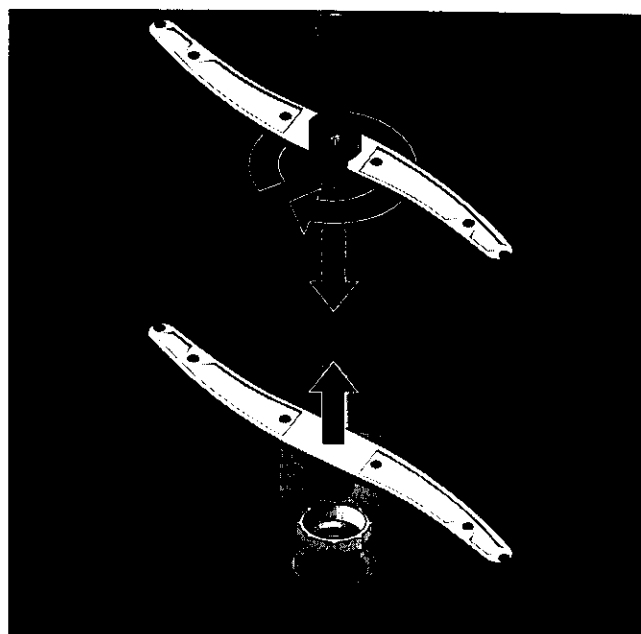

Figure 15.
- > The upper wash arm is held in position by a locking ring that can be released by turning it approximately $\frac{1}{8}$ turn. See figure 15.